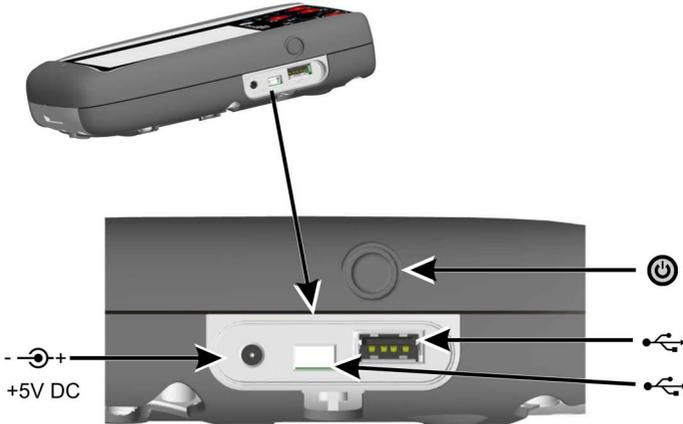

Figure 1-4: DPI620G Power Button and Ports
1. Push the DC power supply connector into the + 5V DC socket on the side of the unit, see Figure 1-4.
If the device is de-energized (power off), momentarily push in the power button (Figure 1-4) until the display flashes and shows the Druck launch screen.